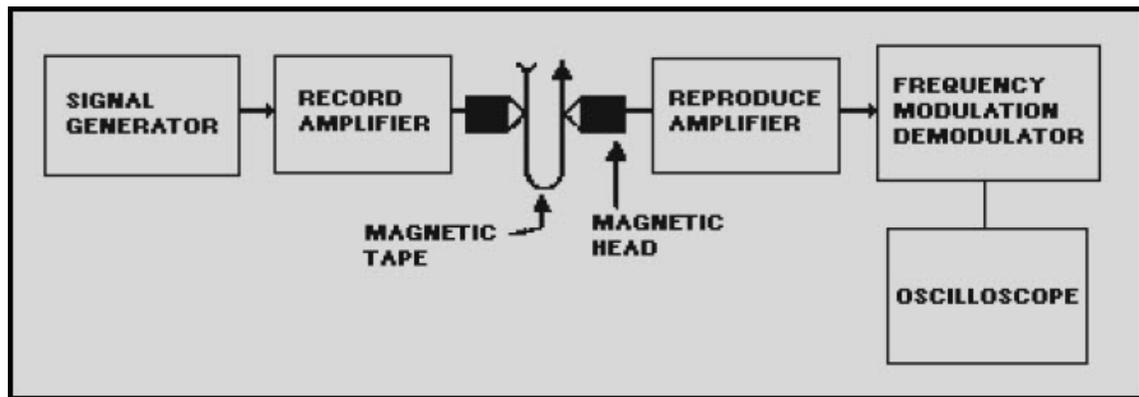

Figure 6-8 Test equipment setup for measuring flutter
There are many ways to measure flutter. Most are based on the fact that tape speed variations cause frequency modulation of a recorded tone. Figure 6-8 shows a typical setup for measuring the peak-to-peak value of flutter with a frequency-modulation (FM) demodulator and an oscilloscope. The technical manual for the magnetic tape recorder you're testing will tell you how to set up the signal generator to output the test signal. After setting up the test equipment, follow these procedures: